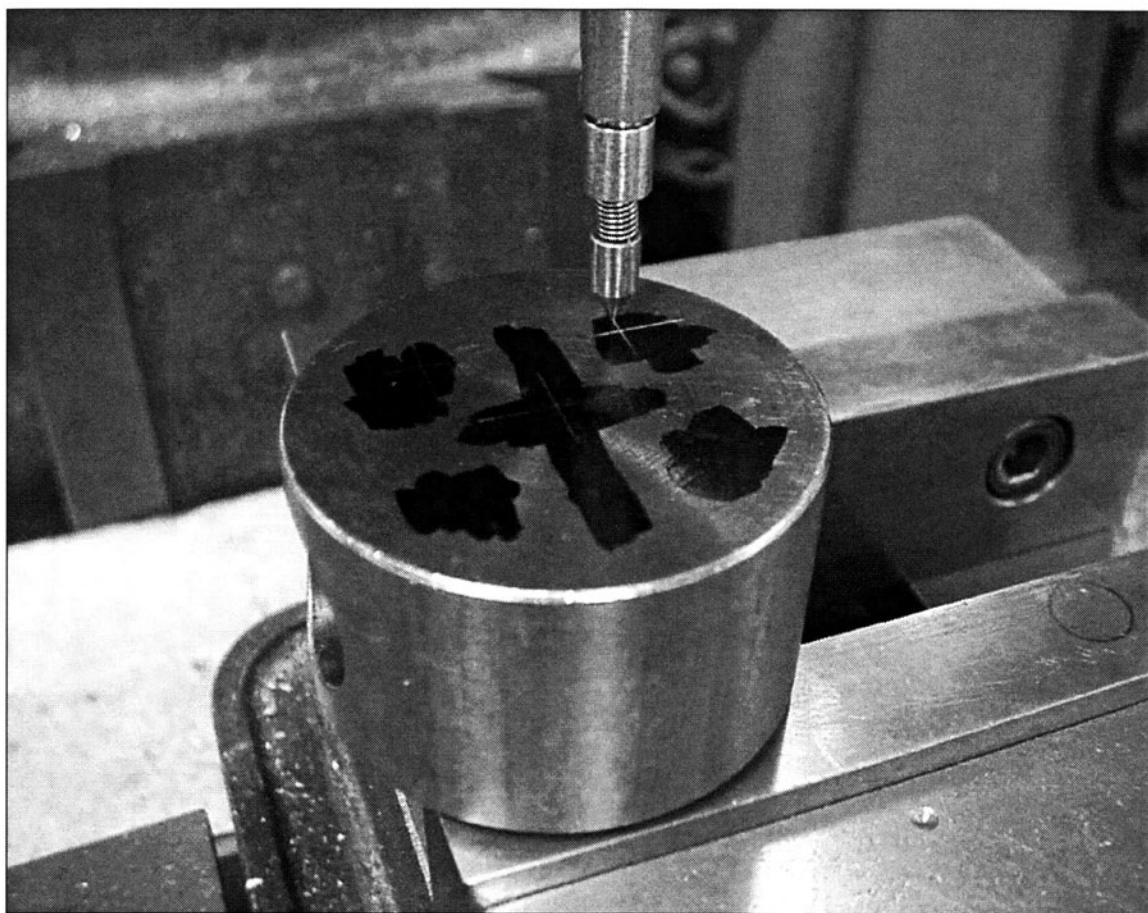

FIGURE 10-5 A spring loaded scribe can be used to scribe lines on parts mounted in a vise or rotary table.
5. *Use a spring-loaded scribe to make layout lines. (See Fig. 10-5)*